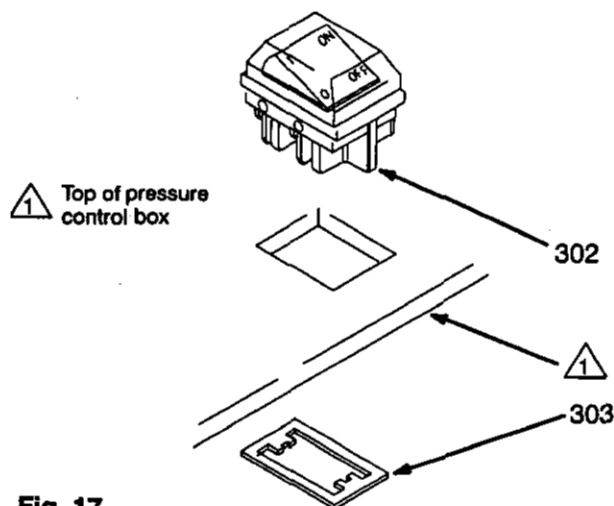

Fig. 17
Refer to Fig. 17.
2. Disconnect the wires from the ON/OFF switch (302).
3. Pry off the retaining clip (303).
5. Install the new switch as shown in Fig. 17.